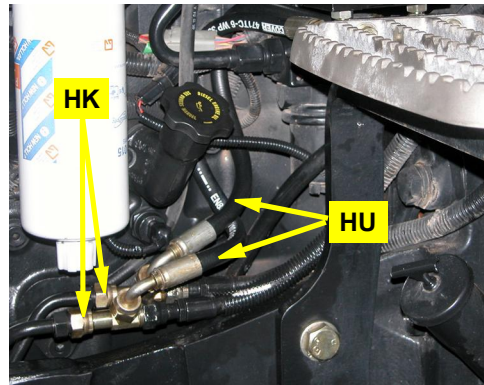

Figure 7a: Steering hoses connected to run-tees
- a. Connect the elbow ends of steering hoses **HU** to run-tees **HK**. Using heavy tie straps **HY**, route the hoses inside the step bracket, back over the fuel tank mount, down between the tractor frame and the fuel tank then forward to the hydraulic steering block (Figures 7a and 7b).